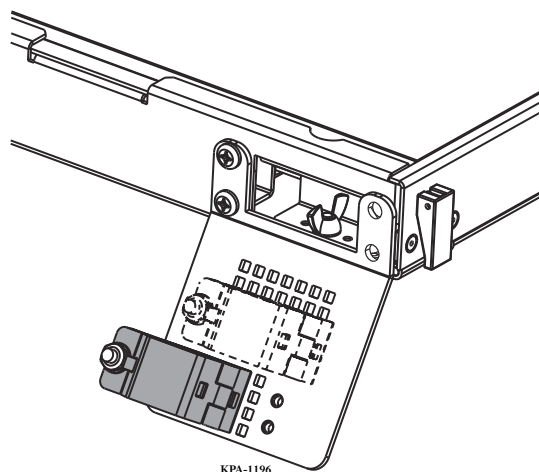

Figure 5 — Strain-relieve Using UCC
Step 1: Attach the UCC clampshell to the strain-relief bracket as shown in Figure 5 to allow installation of a second UCC if necessary.